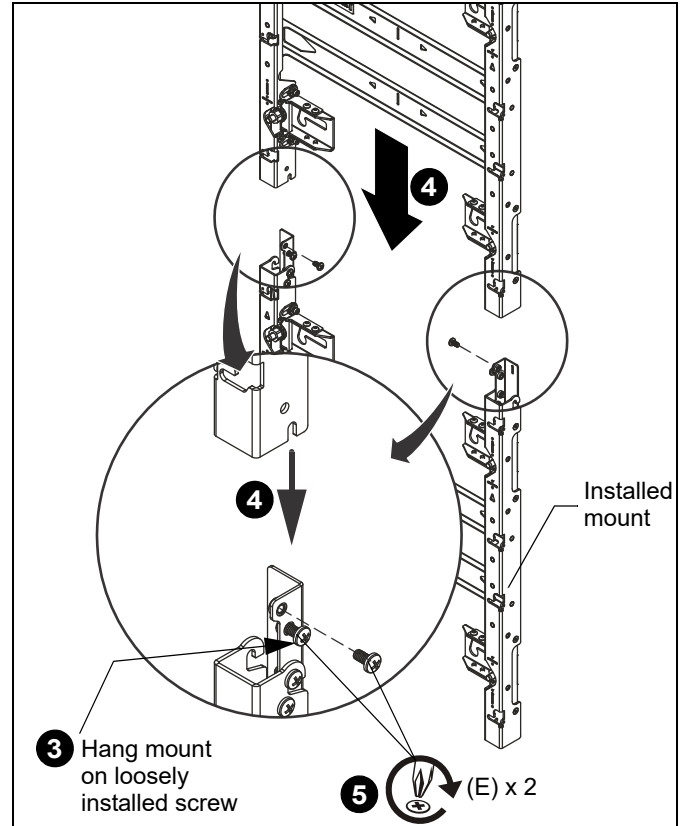

Figure 22
3. Make sure the 1/4-20 x 1/2" Phillips head screw (E) is already loosely installed in the vertical connector (P) on both sides of the mount. ((See Figure 22)
5. Install two 1/4-20 x 1/2" Phillips head screws (E) into upper hole on both vertical connectors, and tighten all screws. (See Figure 22)